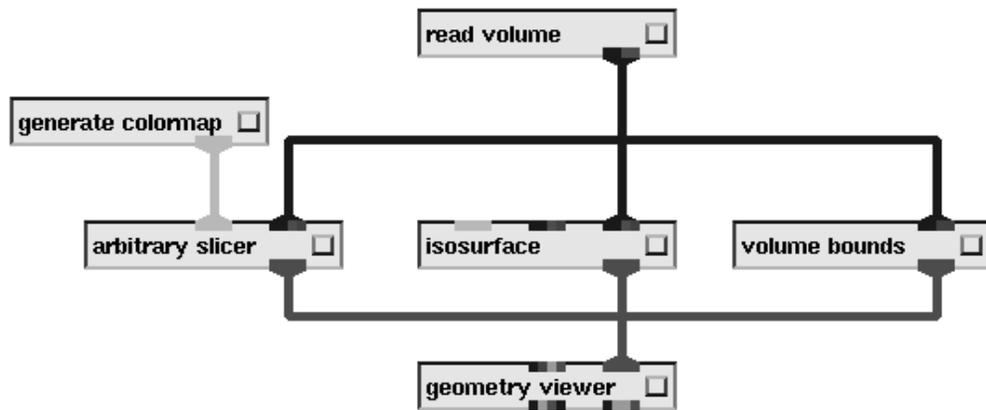
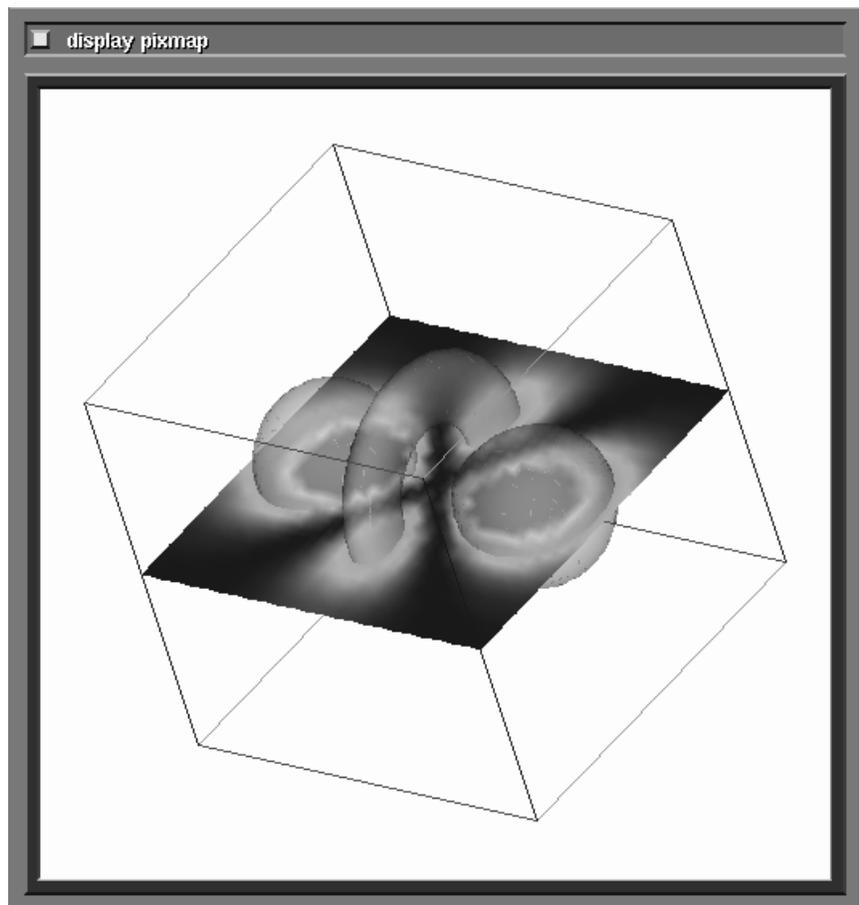

Figure 5-3 A Network that Produces Three Geometries
Figure 5-4 The Three Geometries Combined in One Scene
- Geometries can flow into the **geometry viewer** module from an AVS network. (See Figure 5-3 and Figure 5-4.) Most AVS mapper modules (**scatter dots**, **isosurface**, **arbitrary slice**, **hedgehog**, **ucd to geom**, etc.) create geometries as their visualization representation of numeric data. This is signified by their red (geometry) output ports. For example, the **isosurface** module takes the numeric data in a 3D field, then uses the "level" value you give it to create a 3D contour surface through the volume. This 3D contour is output as a geometry of vertices in 3D space connected together with surfaces. Note that *the numbers from which the geometry was derived are not present in the geometry itself*.